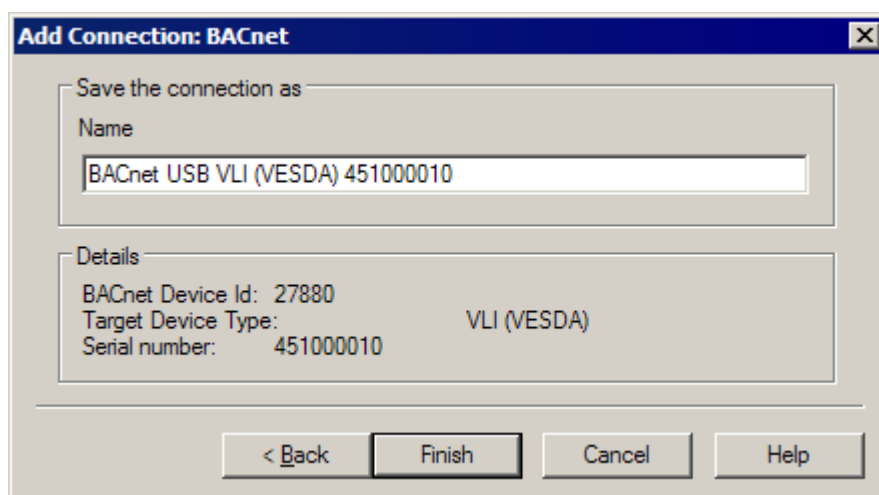

Figure 5-6: Enter a Connection Name
7. Enter a unique name for the Connection or accept the pre-generated name, then select Finish (Figure 5-6).